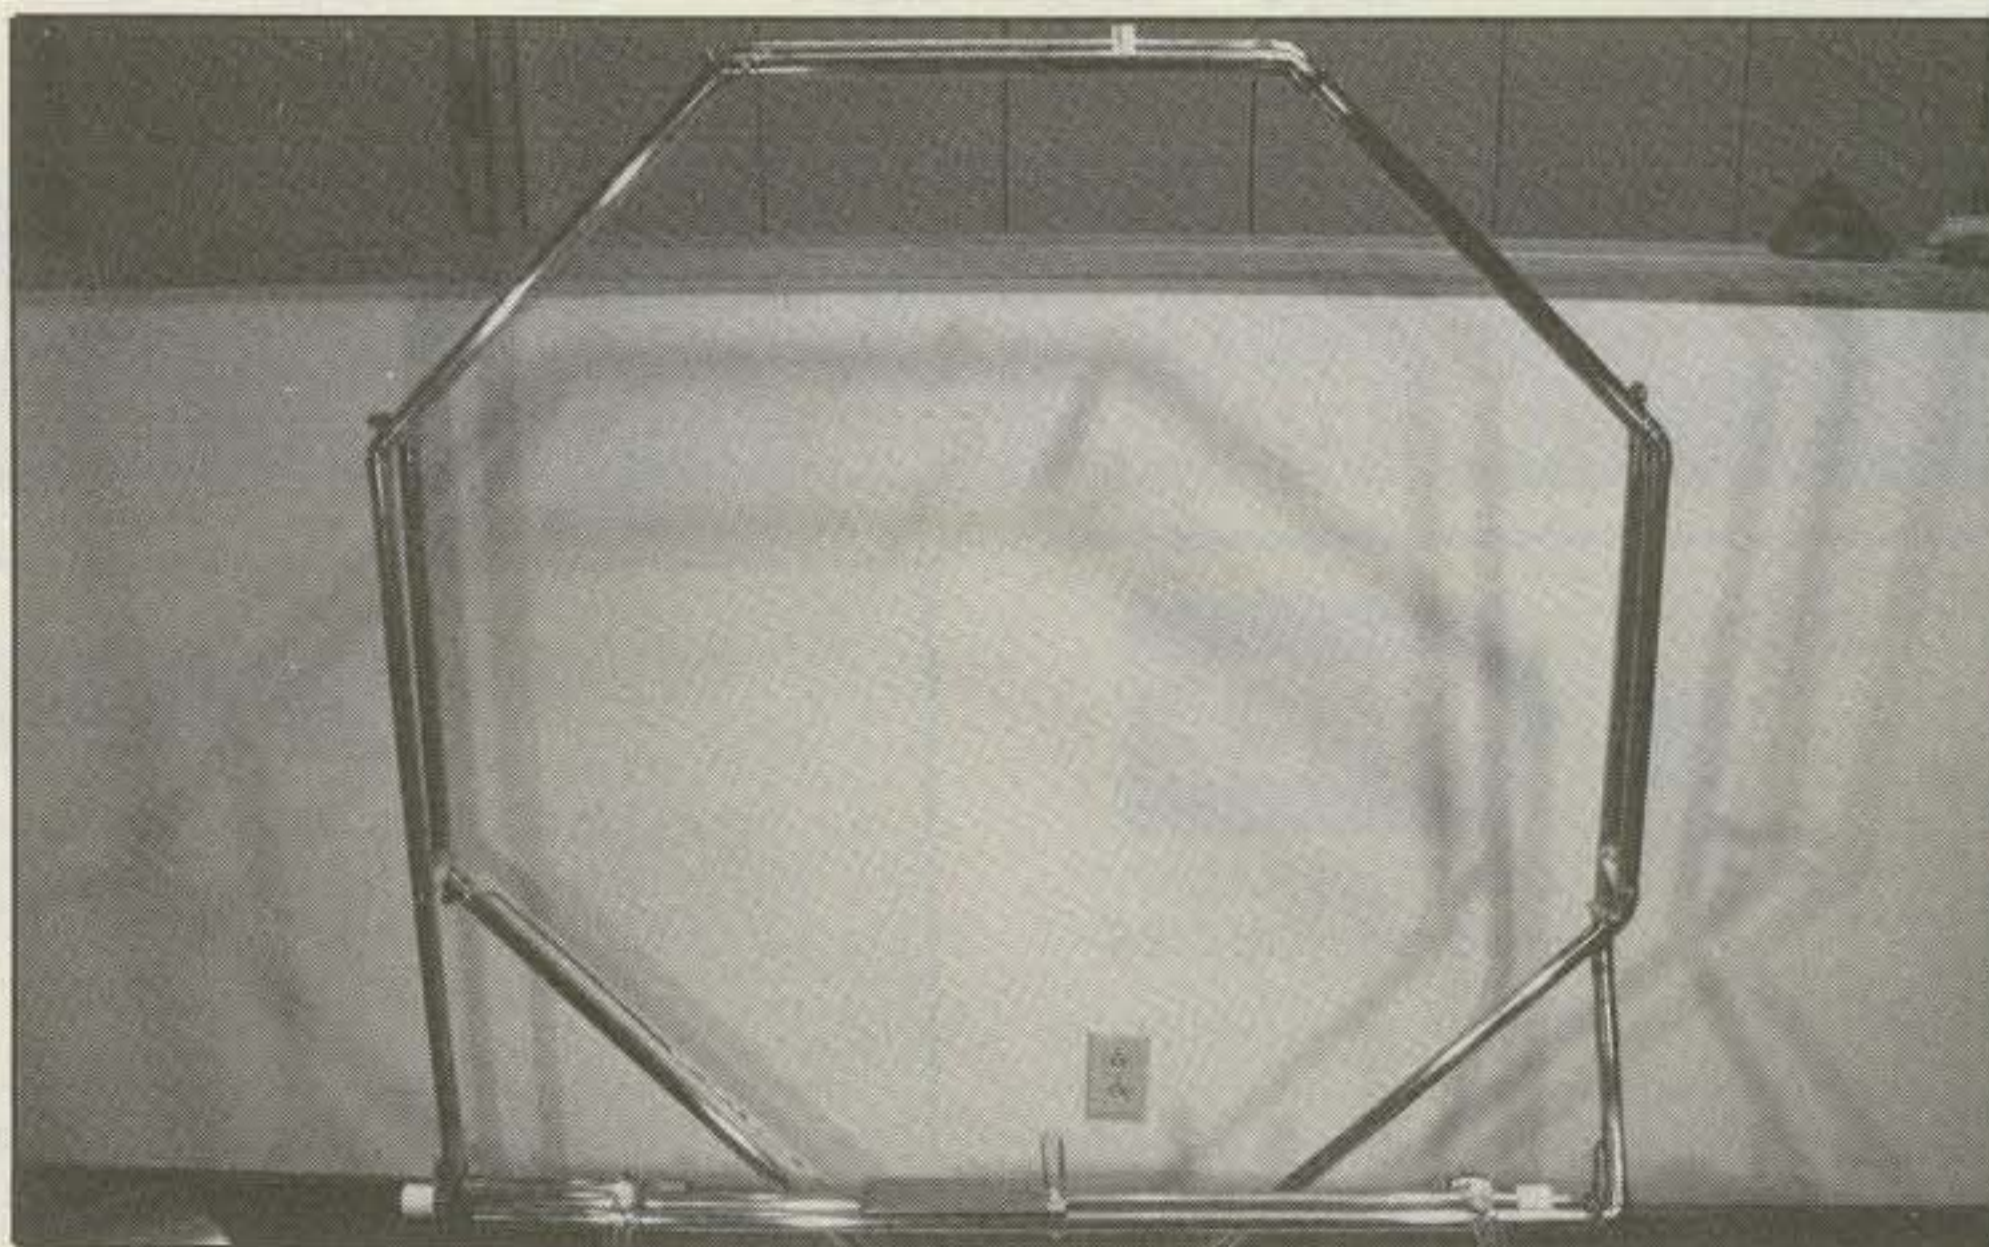

Fig. 1—The two-turn loop antenna for 40 and 80 meters.
Assemble the loop from the base upwards, tightening the hose clamps only enough to keep the sections in place. Set the long top pipes to be about 1 inch apart, and then tighten all the hose clamps securely. Mount the slotted insulators on the pipes so that they both extend out like handles on the same side of the loop, as in fig. 1. The approximate spacings for each band are given in Table I.
The loop in this installment covers 40 and 80 meters using only two turns. Even though this sacrifices some efficiency compared to a single-turn loop, the antenna still works and is a manageable indoor size. In operation from a first-floor apartment the loop in fig. 1 has been a very pleasant surprise, giving many fine QSOs up and down the east coast and into the midwest on 40 and 80 meters. The calculated efficiencies are 47% at 7 MHz and 9% at 3.8 MHz, which are very good compared to other indoor antennas for these bands.
Fig. 7- Dimensions of the pipe components. All holes are 1/4 inch. The pipe lengths are the length of pipe to be cut, before an ell is added. The two views marked (A) are of the same pipe, to clarify the positions of the hole and the ells on it. Check the photos to make sure you see how this descending pipe fits and connects to the capacitor pipe (C), at the lower right of the antenna in figs. 1, 2, and 6. Two views are also shown of the large capacitor pipe (B). The 9 inch long pipe with a 90° ell at one end is soldered to the 1 inch pipe. This 90° ell connects to the 30 inch vertical pipe that is at the left of the antenna in figs. 1 and 6. Near the other end of the large pipe (B) is a small length of 3/4 inch pipe that also is soldered to the large pipe. The hole in this small piece is needed to accept the 1/4 inch bolt that holds the insulating handle to the large capacitor pipe. The short pipe (D) with two 45° ells is the base section that is bolted to the plastic or wood base. Twenty-six feet of 3/4 inch, 4 feet of 1 inch, and 4 feet of 1/2 inch copper pipe, Type M, are required. Also thirteen 45° and two 90° copper ells.